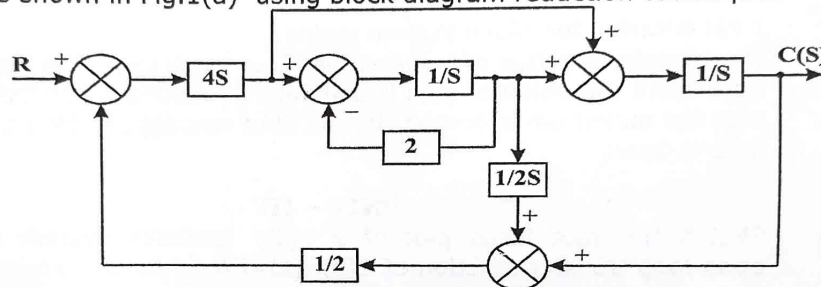

Fig.1(a)
1. a) Determine the transfer function of a system whose block diagram is as shown in Fig.1(a) using block diagram reduction technique. CO1 (10)